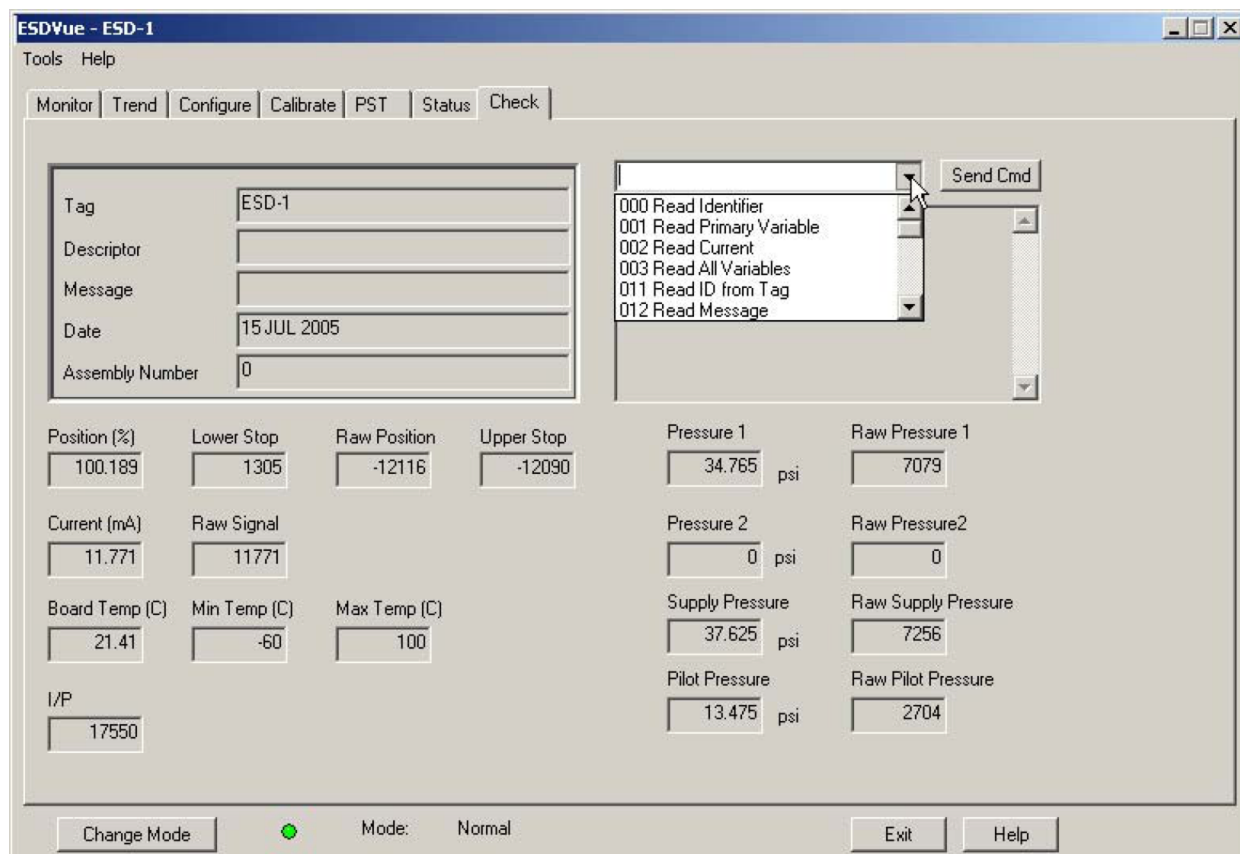

Figure 318 - Accessing HART Commands
1. Access the command drop down list by clicking on the arrow located at the right of the field (Figure 318).